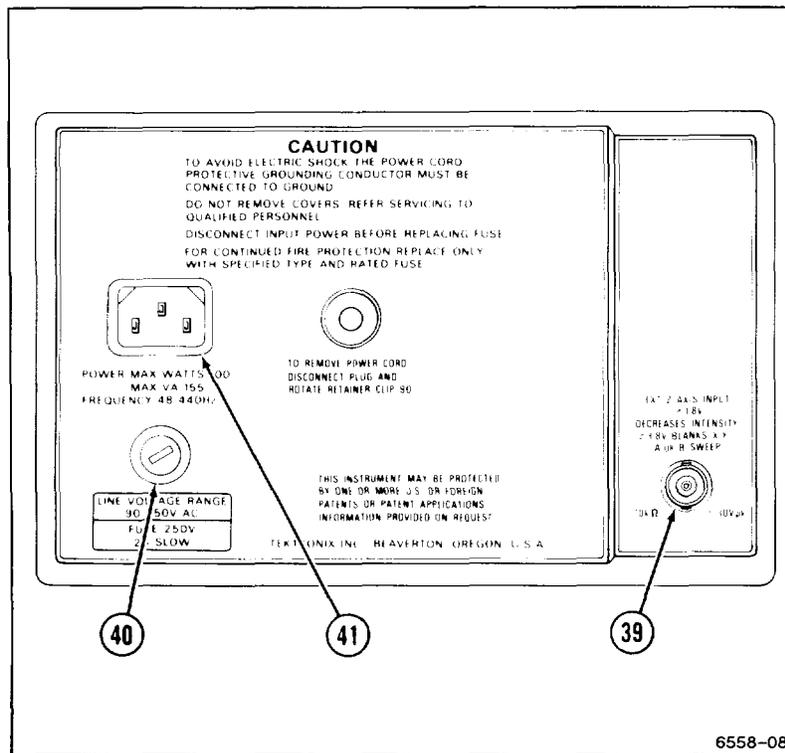

Figure 2-6. Rear panel.
Refer to Figure 2-6 for location of items 39 through 41.